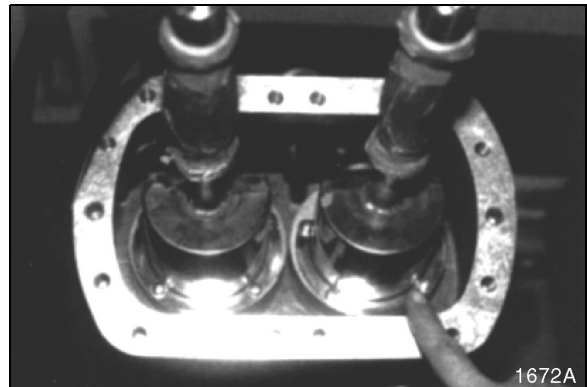

Figure 78
1. Heat housing from 80° - 85°C (176° - 185°F). See Figure 78.